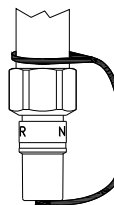

Figure B-6.
The **Model BFR-UBCT** is a metal blow-off cap and O-ring, but with a stainless-steel tether attached to it. This will allow the tether to be attached to the piping that the nozzle is installed on. See **Figure B-6**. The **Model BFR-UBCT-5** comes with five (5) caps and O-rings.